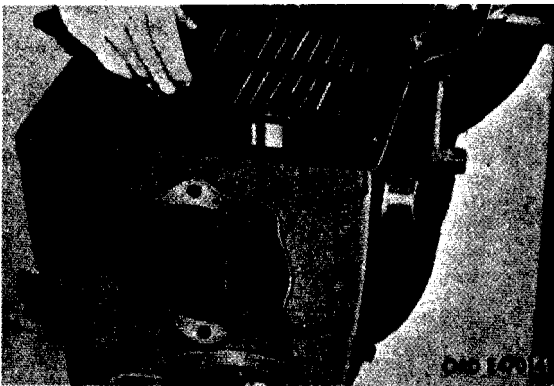

Figure 258. Lifting countershaft with gears from transmission case
- (b) Attach a rope sling and lift countershaft (fig. 258) with gears from transmission case.